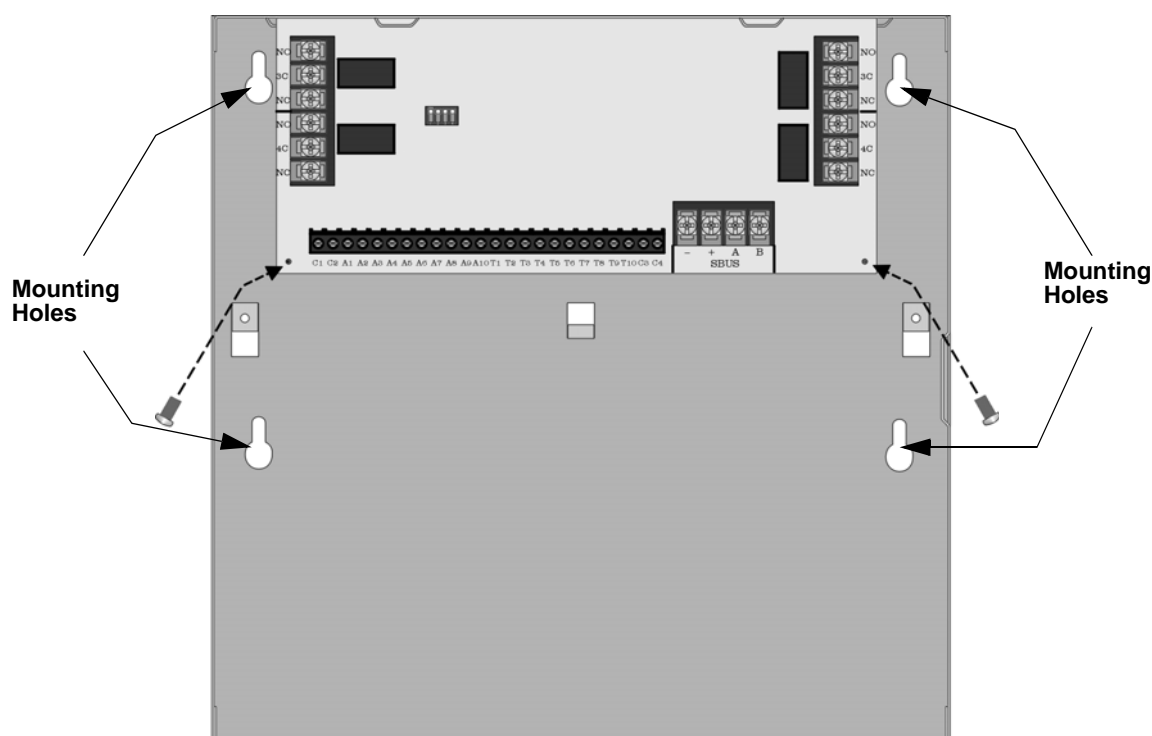

Figure 3-16 Model SK-5280 Remote Installation
1. Mount the remote cabinet using the cabinet mounting holes. See Figure 3-16.
3. Mount the SK-5280 onto the standoffs and bracket located in the cabinet. See Figure 3-16.